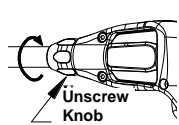
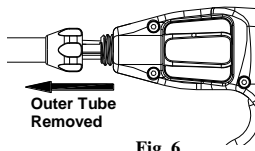

Fig. 5
Fig. 6
- Remove the outer tube (Fig. 6) by fully squeezing the trigger and unscrewing the knob clockwise (Fig. 5).